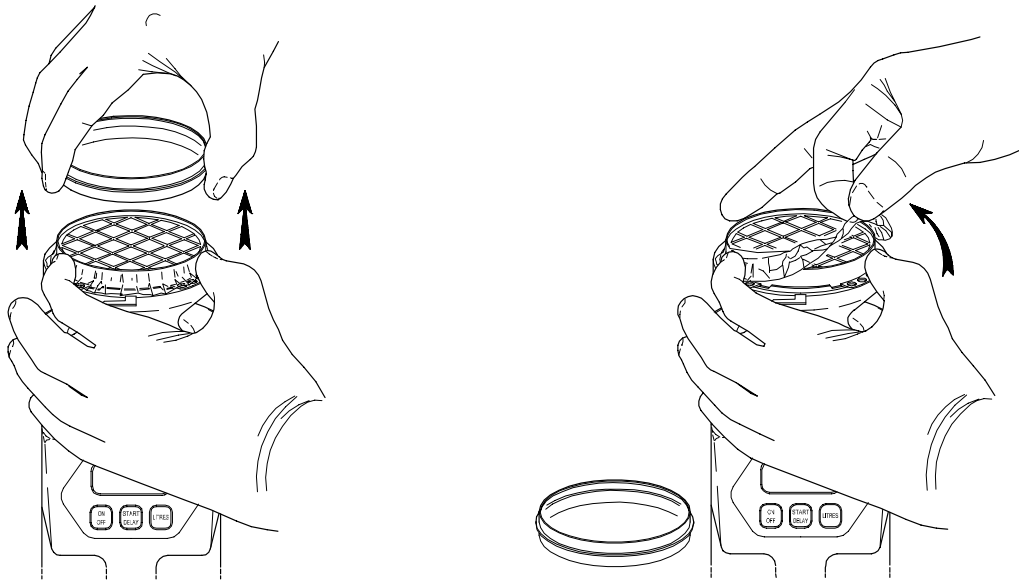

Fig. 3
4. Retain the cassette in position by holding on to its wings. Remove the lid and place it on the bench, internal face down. Peel off the inert film from the agar surface (Fig. 3).